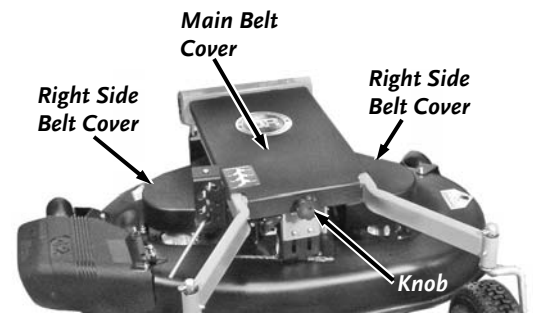

Figure 6
NOTE: Your Lawn Deck shipped with the Belt in place on the two Blade Drive Pulleys. Occasionally, the Belt comes off during shipping. If this occurs, remove the Left and Right Side Belt Covers from the Deck (Figures 6) with a 1/2" Wrench and place the Belt back on the Pulleys.
1. Remove the Front Knob and the Main Belt Cover (Figures 6).